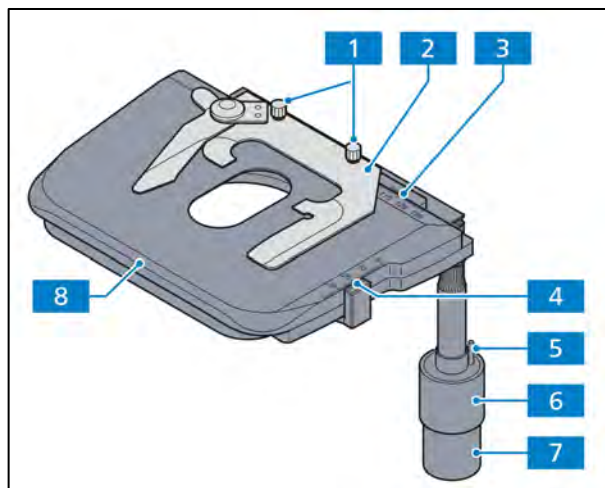

Fig. 2-12 Mechanical stage 75x50 R with specimen holder
- Mechanical stage (Fig. 2-12/8) for holding and positioning specimens with a specimen holder.
- Specimen holder (Fig. 2-12/2) for single-handed operation or specimen holder for counting chambers (replaceable after loosening the two knurled screws, Fig. 2-12/1).
- Coaxial knurled knobs for X (Fig. 2-12/7) and Y adjustment (Fig. 2-12/6). The coaxial knurled knobs for X and Y can be adjusted to suit the personal preferences of the user with regard to height and friction. The required tools (Fig. 2-12/5) are located in the upper coaxial knurled knob.
- Vernier scale for display of adjustment range in the X (Fig. 2-12/3) and Y directions (Fig. 2-12/4).
- Coaxial knurled knobs on right (R) or left (L) side depending on the model.